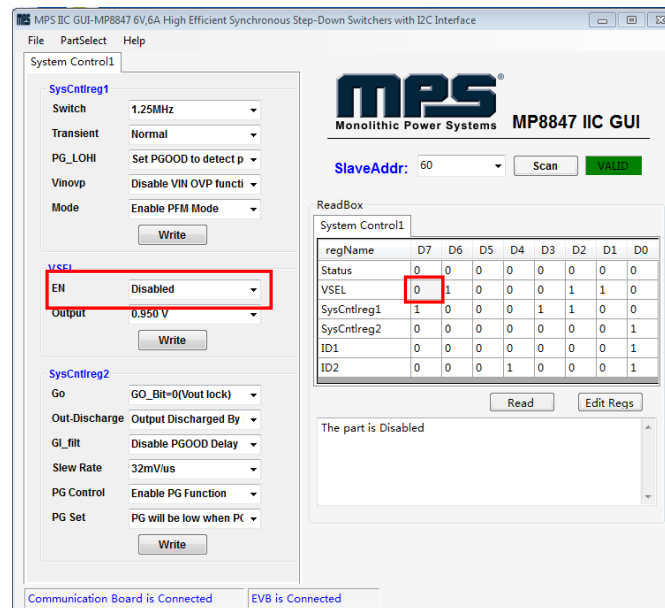

Figure 10: Refer to Datasheet to Translate 0's and 1's
5. Click the **Read** button to update the values. The changed information of the item will appear on the right side (see Figure 10).